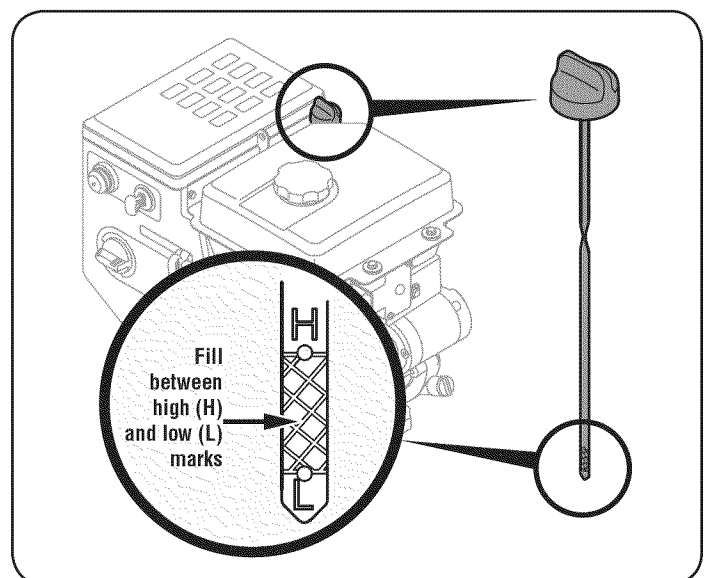

Figure 10
- Keep oil level between "H" and "L" marks on dipstick. See Figure 10.
1. Remove the oil filler cap/dipstick and wipe the dipstick clean. See Figure 10.
3. Remove the oil filler cap/dipstick. If the level is low, slowly add oil until oil level registers between high (H) and low (L). See Figure 10.